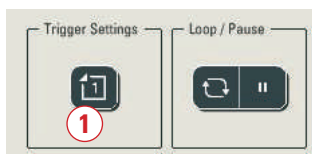

Figure 15: A click on **Trigger Settings** opens the Trigger Settings dialog
To assign a trigger to an individual job this job must first be selected in the time line. A subsequent click on the **Trigger** symbol **(1)** (Fig. 15) opens the **Trigger Settings** dialog that allows for setting input (IN) and output triggers (OUT) (Fig. 16).